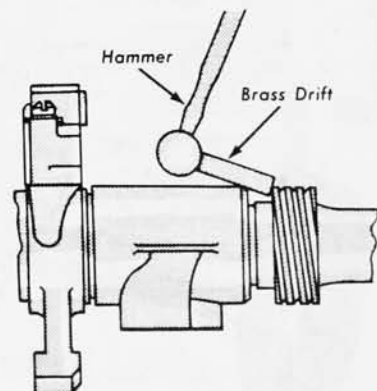

FIG. 16—Speedometer Drive Gear Removal
6. Using a hammer and a small brass drift, tap the gear evenly and alternately (Fig. 16) to prevent cocking it on the shaft. Tap the gear gently to prevent damaging it.